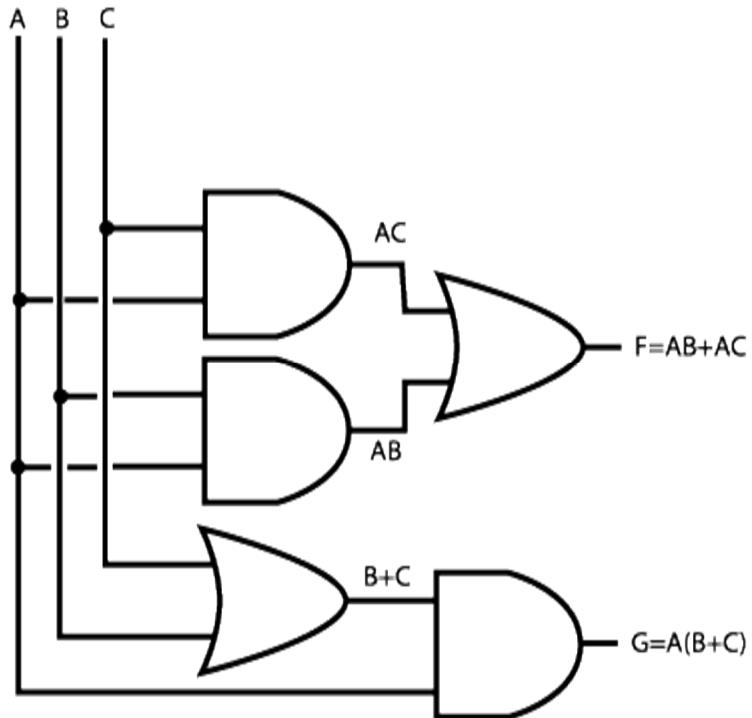

Figure 4. The Distributive Law.
- (a) To demonstrate the Distributive law, connect AND, OR gates as shown in Figure 4. Vary the inputs A, B and C to obtain all possible combinations and check that the outputs F and G are identical.